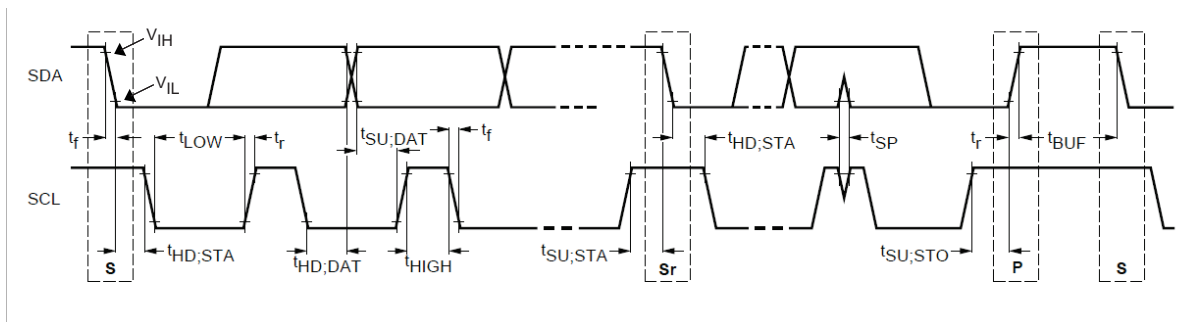

Figure 1. I²C Timing Definitions (reproduced from Phillips I²C spec Version 1.1)
- (1) Ensured by design. Not production tested.
(2) Refer to Figure 1 below for I²C Timing Definitions
(3) Cb = capacitance of bus line in pF